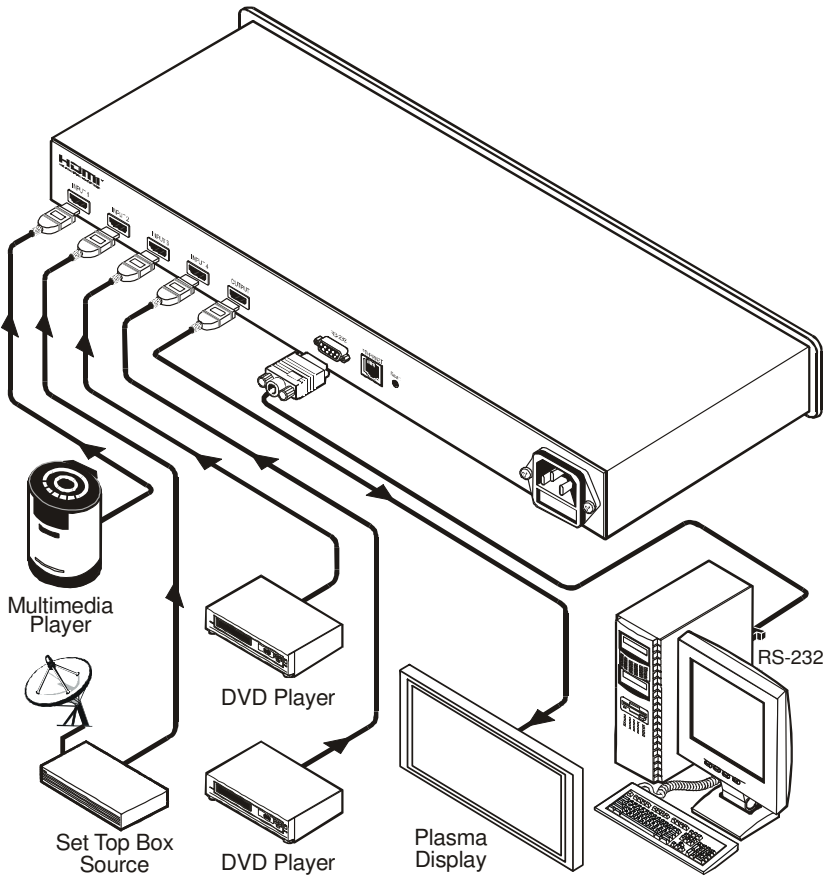

Figure 2: Connecting a VS-41HDMI 4x1 HDMI Switcher
To connect the **VS-41HDMI 4x1 HDMI Switcher** (as illustrated in Figure 2), do the following¹:
5. Connect the power connector to the mains electricity (not shown in Figure 2).